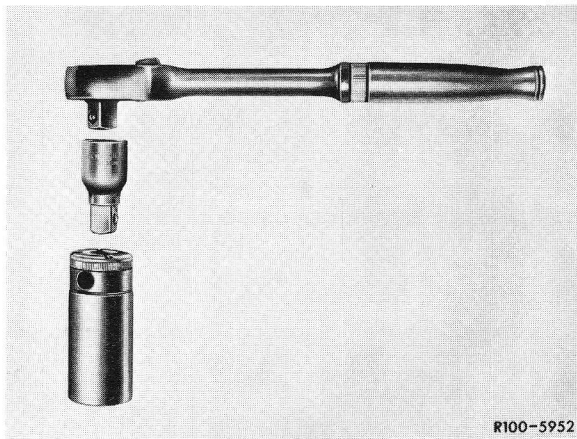

Fig. 2
- 6 Position tool combination (Fig. 2) on hex. bolt for attaching hub to crankshaft and turn crankshaft in direction of rotation until the tip of the inlet cam to be measured points vertically away from the sliding surface of the rocker arm.